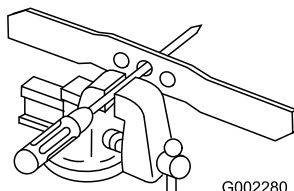

Figure 35
1. Check the balance of the blade by placing the center hole of the blade over a nail or screwdriver shank clamped horizontally in a vise (Figure 35).